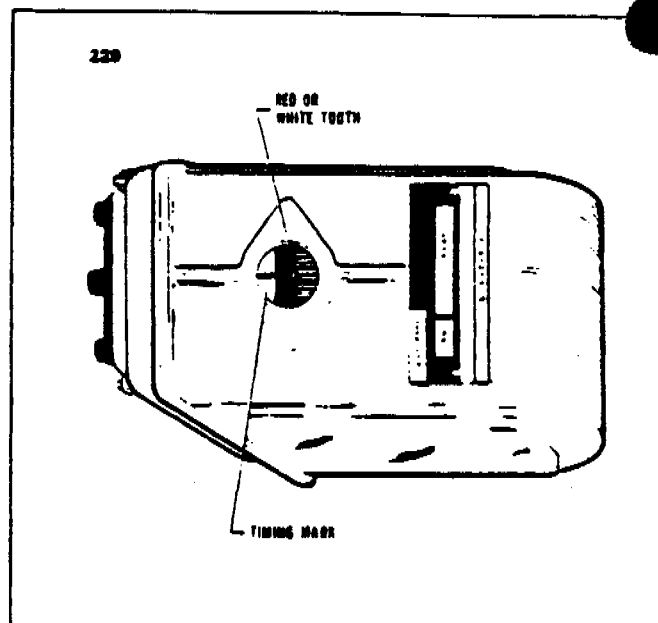

FIGURE 7C-15. MAGNETO TIMING MARKS
b. Continue turning the crankshaft until the 25° advance timing mark is in alignment with the small hole located on the top face of the starter housing at the two o'clock position. (Refer to Figure 7C-14.)